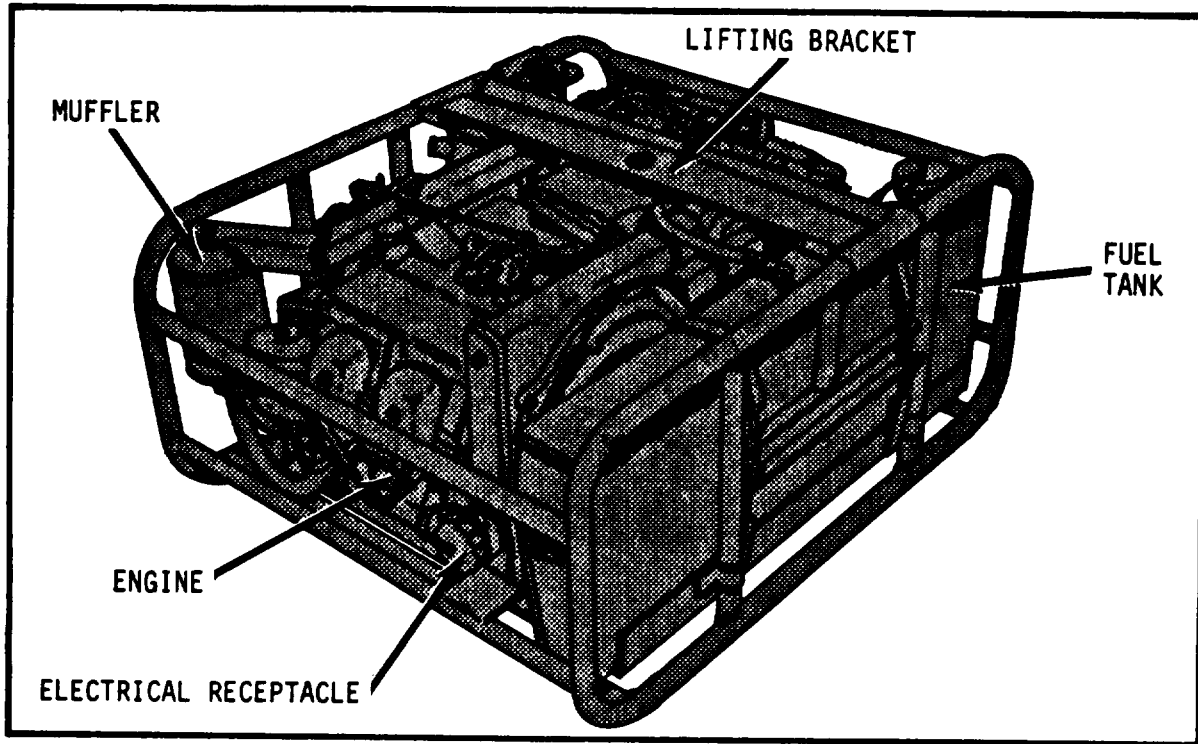

Figure 1-2. Generator set - left front view.
a. General. The generator (figures 1-2 through 1-4.1) consists of a gasoline engine driving a direct current generator. The generator output voltage is regulated by either a carbon pile voltage regulator (generator set serial numbers 923-001 thru 923-553) or a solid state voltage regulator (generator set, serial